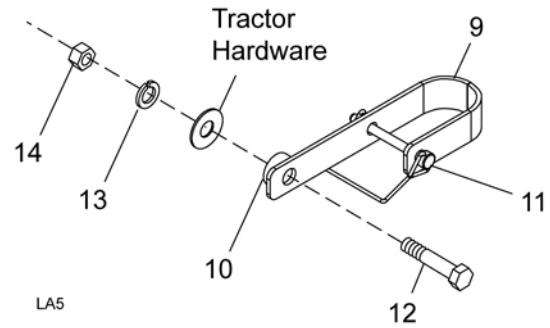

Figure 48. Hose Hanger Installation
3. Attach hose hanger (9), using spacer (10), cap screw (12), flat washer (from tractor), lock washer (13), and nut (14) as shown in Figure 48 and Figure 49.